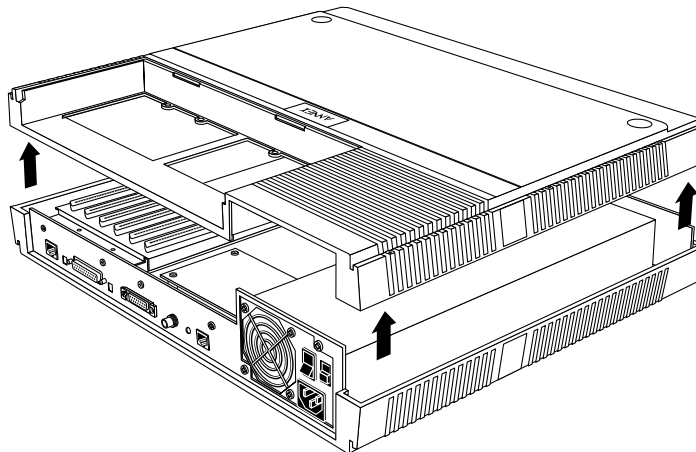

Figure C-3. Removing the Cover
- 5 Lift the cover vertically (see Figure C-3).